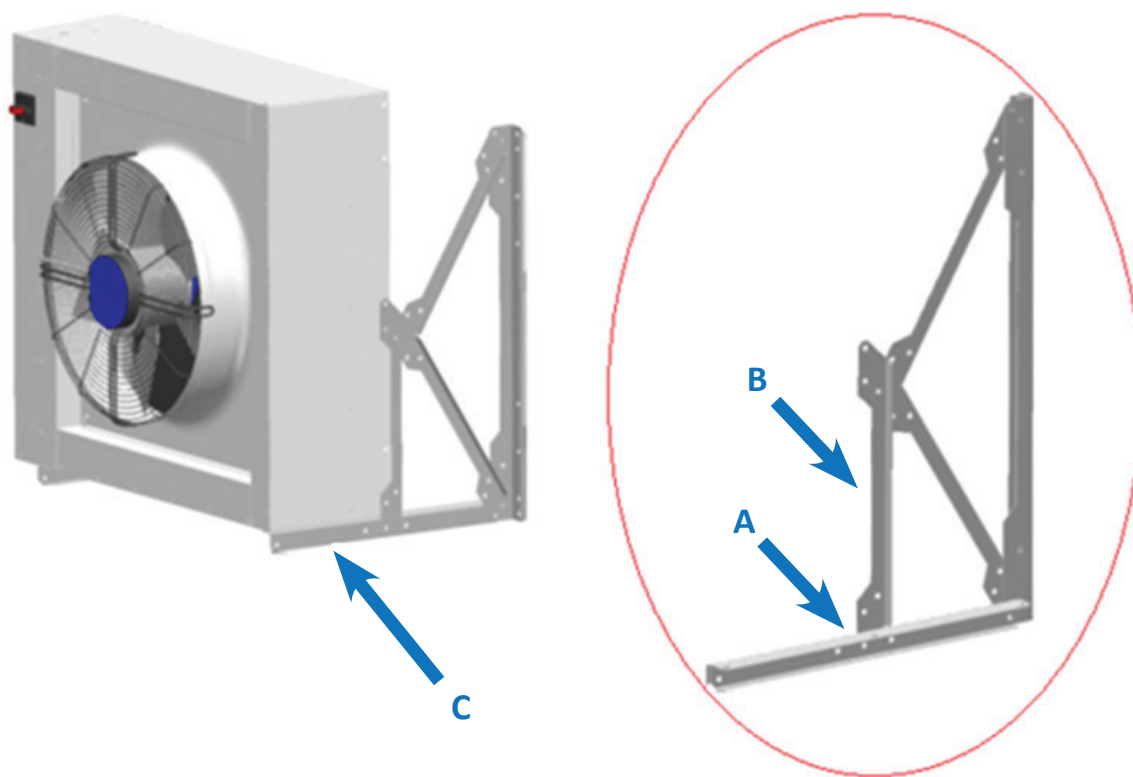

Figure 3. Vertical Airflow Configuration
– see Figure 3.
- ▶ Double cooler (B) would have six legs provided – place two additional legs in the middle – refer to picture.